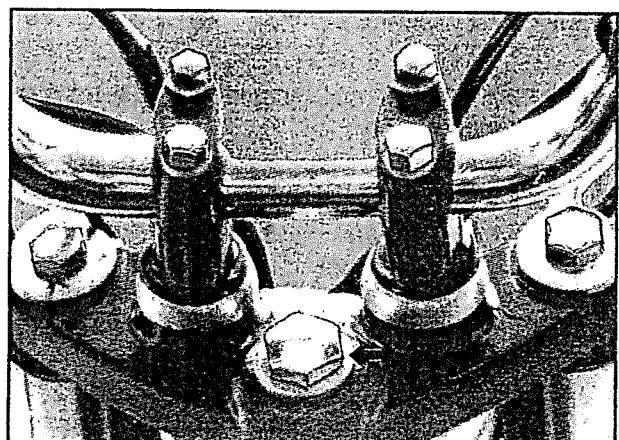

Fig 6.44
- Loosen and remove the steering stem head bolt (fig 6.44)